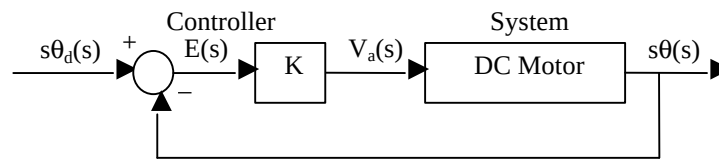

Figure 1: Proportional Closed Loop Motor Speed Control Diagram
3. Modify the open loop controller so that it becomes proportional closed loop control with closed loop controller gain K as shown in Figure 1.